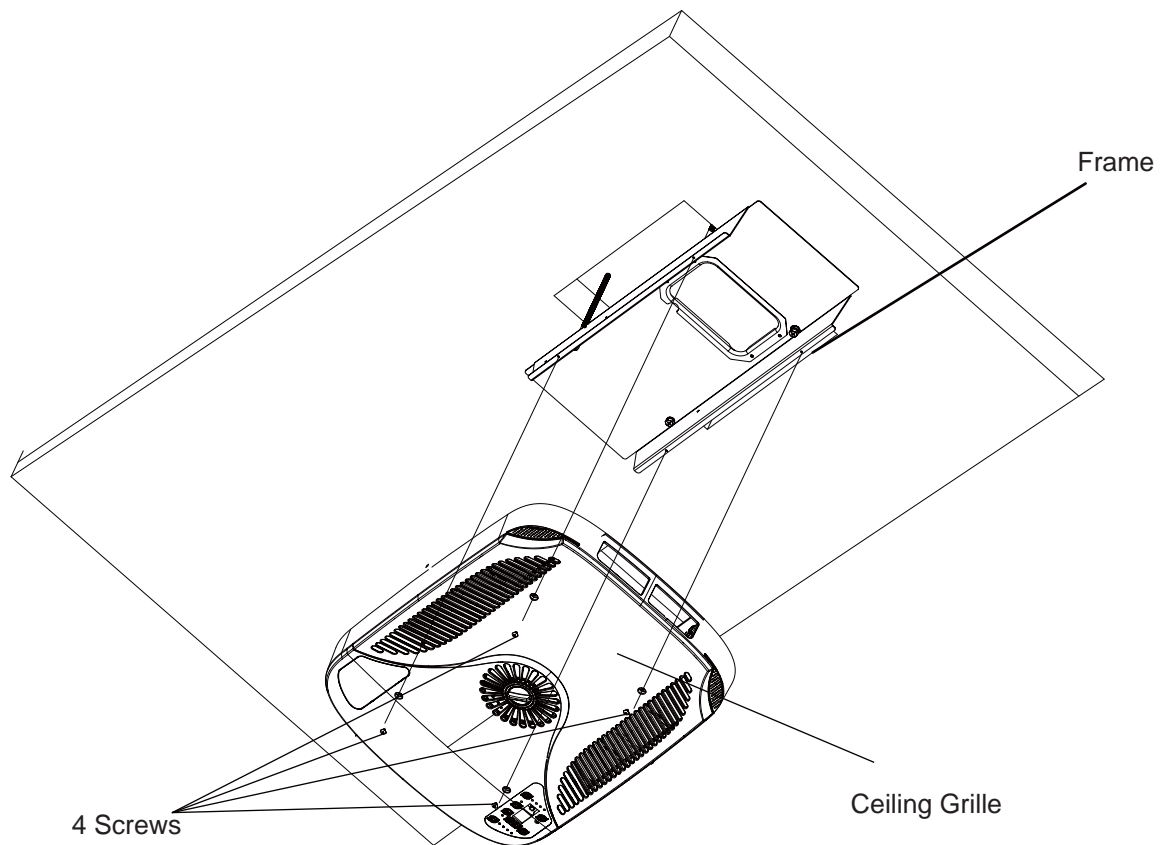

Figure 10
3. Secure the ceiling grille to the ceiling assembly frame with 4 screws.(see Figure 10).